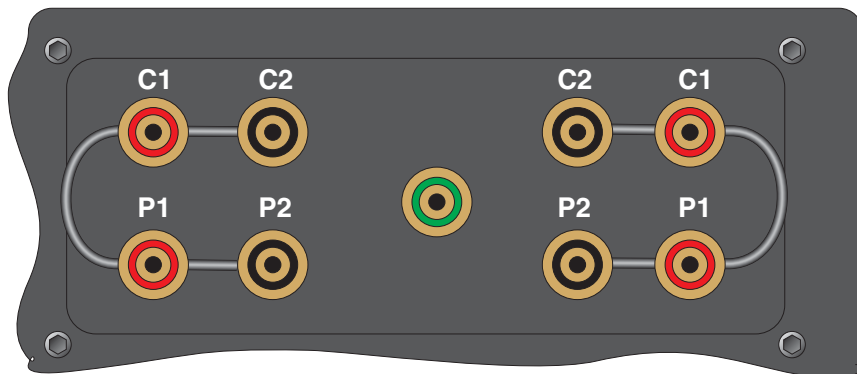

Figure 50 Using a Shorting Wire
1. Connect a 0Ω resistor to the input and measure its resistance. If a shorting wire is used the wire should run from the C2 terminal to the C1 terminal to the P1 terminal to the P2 terminal (See Figure 50). Note the average error in the measurement. Adjust the C0 parameter by subtracting the measured error. For example, if the input is exactly 0.0000 and the readout shows -0.0011, adjust the C0 parameter by adding 0.0011.
1. Connect a 0 Ω resistor to the input and measure its resistance. If a shorting wire is used the wire should run from the C2 terminal to the C1 terminal to the P1 terminal to the P2 terminal (See Figure 50 on page 132). Note the average error in the measurement. Adjust the C0K parameter by subtracting the measured error. For example, if the input is exactly 0.0 Ω and the readout shows -0.11 Ω , adjust the C0K parameter by adding 0.11.